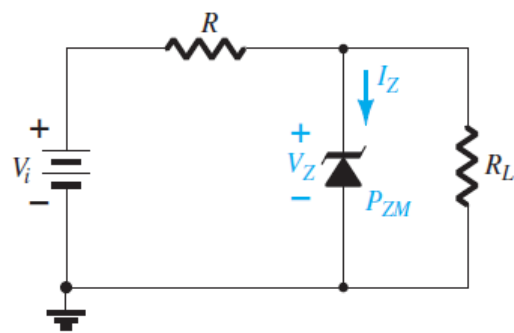

Figure 8.6.1: Circuit diagram
1. Connect the circuit as shown in Fig. 8.6.1